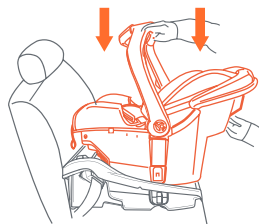
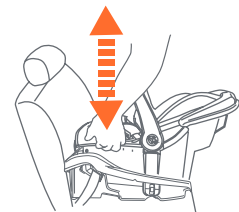

Fig. 49-1
Fig. 49-2
10. If you are using the Base, check that nothing is on top of the base, or anything that will interfere with the proper latching of the Safety Seat to the Base. Place the Safety Seat onto the Base and push down until the Safety Seat latches securely to the Base and you hear a click (Fig. 49-1). Pull upward on the Safety Seat to check that the Safety Seat is securely latched onto the base (Fig. 49-2).